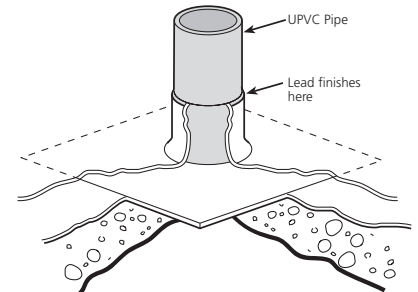

Fig.22a Steps 1/2
**Step 1** – Position purpose-made weathering slate on open end of soil stack (Fig.22a)